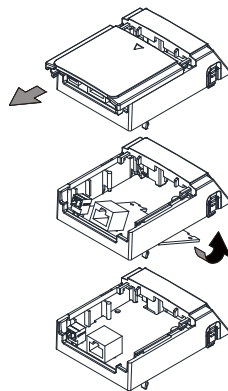

Figure 8-15
2. Assemble the option card: Detach the upper cover of the mounting box for the option card by slipping and make the terminal block and connector of the option card face upward. Fix the front end of the option card to the slots, and press it up to assemble the option card, as shown in the Figure 8-15.